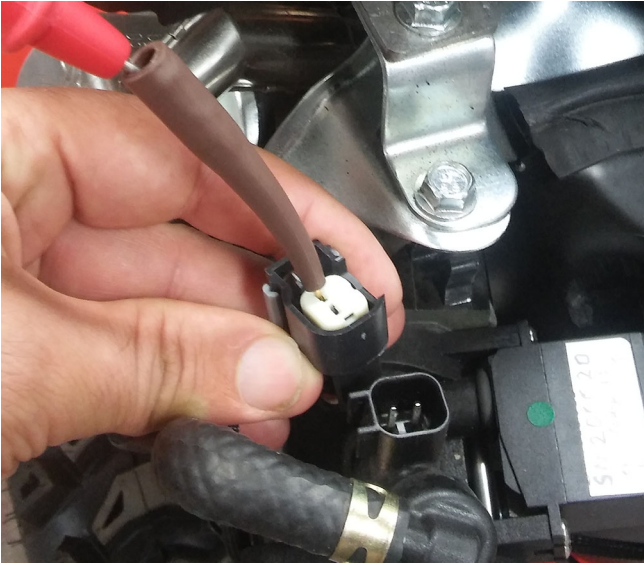

Figure 164
- b. Set a multi-meter to V DC and probe each terminal with the red probe and contact the black probe against the engine block. With the ignition key in the ON position, each terminal should measure 7.2 V DC – 8.4 V DC. See Figure 164.